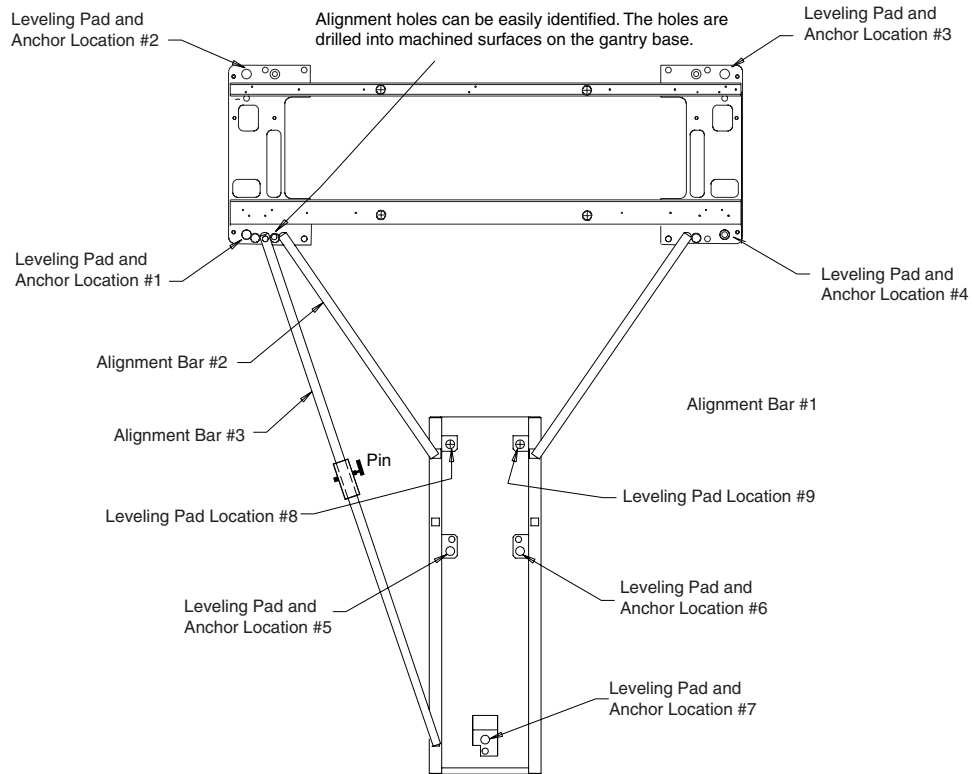

Figure 1-19 Table Base Leveling Pad and Anchor Locations
- 1.) Assemble the two (2) halves of the long gantry/table alignment bar (#3):
- a.) Adjuster locking ring at location #1 (see Figure 1-19) must be removed to position the alignment bars properly. Also, observe the following:
- 2.) The short alignment bars (#1 and #2) are identical and interchangeable (see Figure 1-19):
- Do NOT rest the level on the radiused surface on alignment bar #3 (see Figure 1-19).Because the leveling pads rest against the bottom of the base, raise the table from its lowest position to get it leveled.